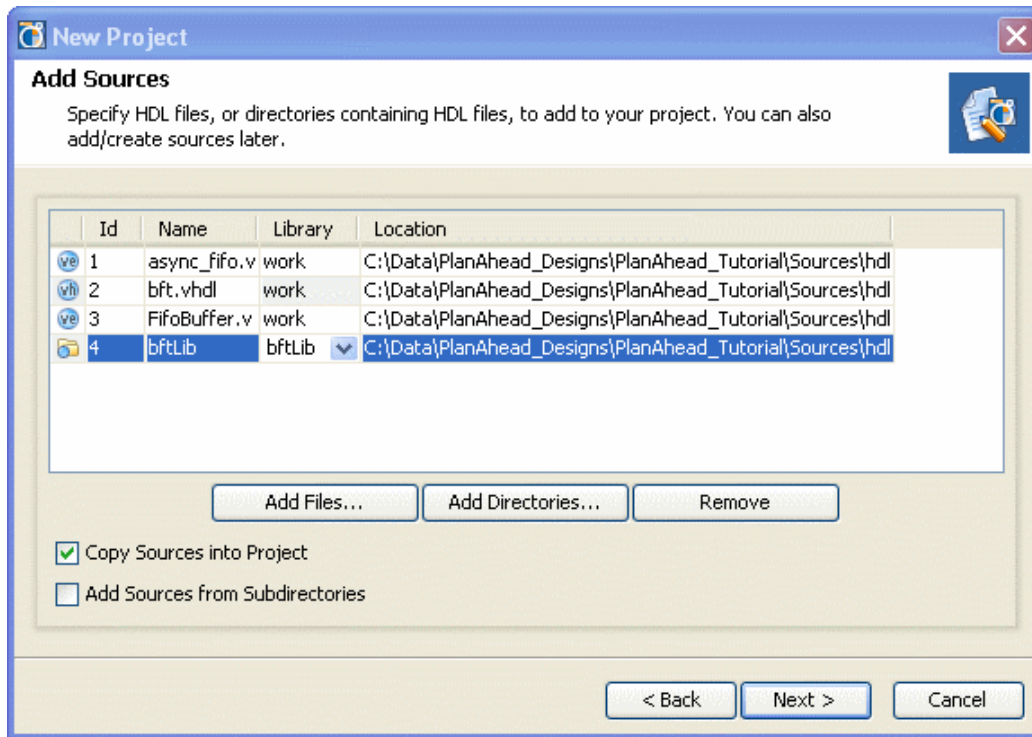

Figure 5: Selecting Sources to Add to the Project
The Add/Create Sources page opens (Figure 5).
- 1-3-7. Verify that the page looks like Figure 5.